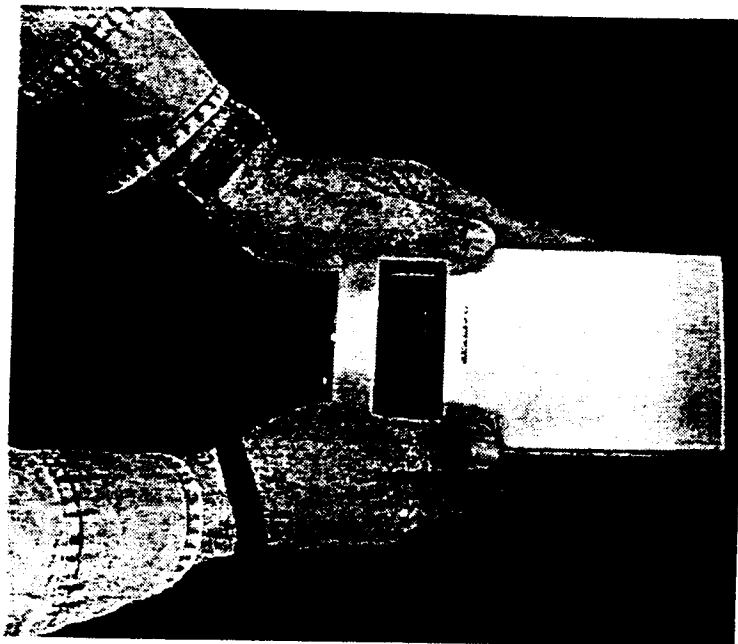

Figure 3-2 Correct Way to Hold Reader for Tag Scanning
Step 1. Slip the safety strap over your wrist and grasp reader from the sides (see Figure 3-2).